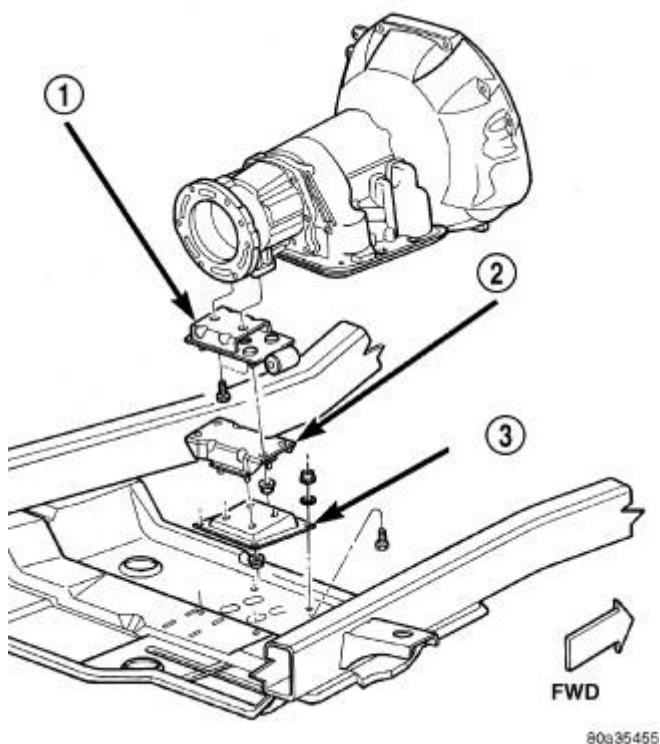

Fig. 158: Rear Mount (Automatic Transmission)
5. Remove the support cushion (2). Refer to **Fig. 158**.
4. Remove nuts holding support cushion to transmission support bracket. Remove the support cushion (2). Refer to **Fig. 158**.